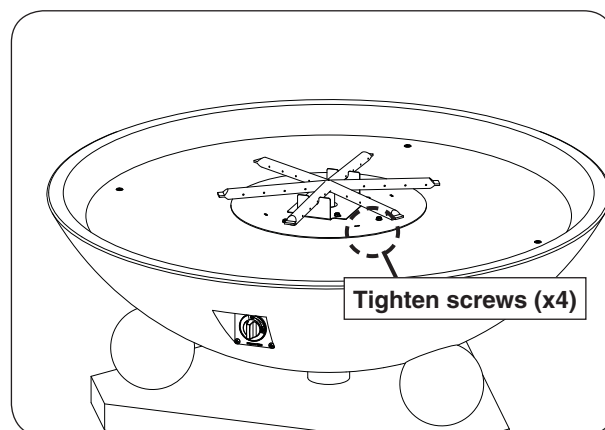

Fig. 32-2 Install burner
2. Use a $\frac{5}{16}$ " nut driver to fasten the burner to the base (see Fig. 32-2).